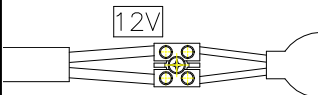

fig. 5
-EFFETTUARE IL CABLAGGIO, RIMONTARE LA PIASTRA DI ELETRIFICAZIONE E BLOCCARE IL PRESSACAVO. (FIG.5)
(BILD2) DURCH DIE SCHRAUBENAUSDREHUNG DEN OBEREN DECKEL OEFFNEN UND DANN DEN FASSUNGSHALTER UND ELEKTRIFIZIERUNGSPLETTE WEGNEHMEN. (FIG.5)
PERFORM CABLING OPERATIONS, REFIT THE WIRING PLATE AND LOCK THE CABLE GLAND. (FIG.5)
PROCÉDER AU CÂBLAGE, REMONTER LA PLAQUE DE RACCORDEMENT ÉLECTRIQUE ET BLOQUER LE SERRE-CÂBLE. (FIG.5)